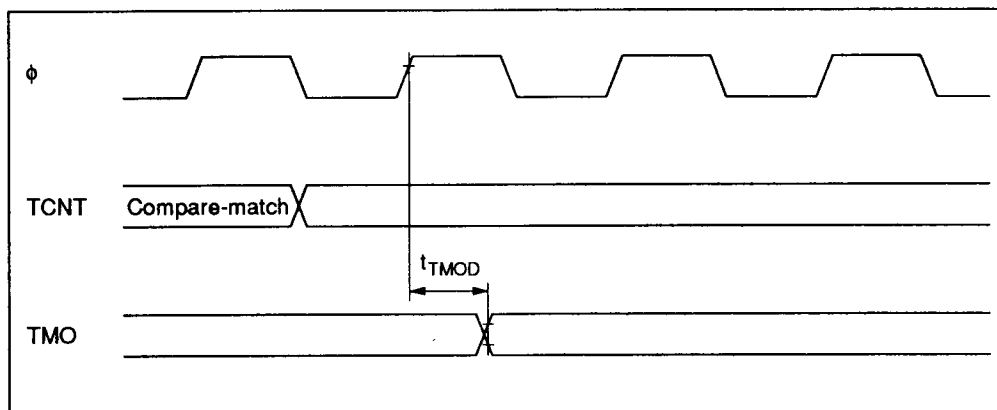

Figure 21-10 16- or 8-Bit Timer Output Timing
21.3.5 16-Bit Timer (TMR6, TMR7) and 8-Bit Timer (TMR0 to TMR3) Timing	Figures 21-10 to 21-12